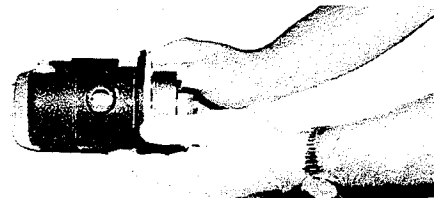

FIGURE 6-7 MAGNETO TIMING HOLE
3. Remove the plug from the bottom of the magneto. (See Figure 6-7).